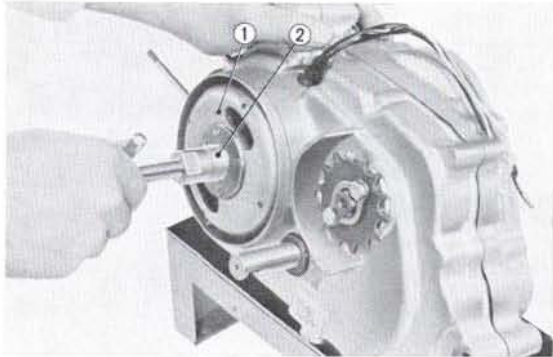

Fig. 2.36 ① Flywheel ② Flywheel puller
8. Remove the dynamo cover and remove the flywheel. (Fig. 2.36)